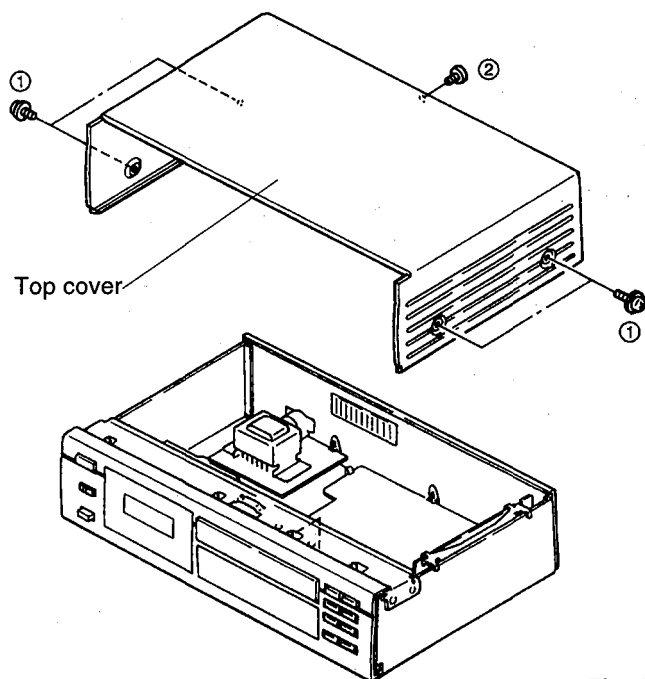

Fig. 1
Remove 5 screws (①,②) in Fig. 1.